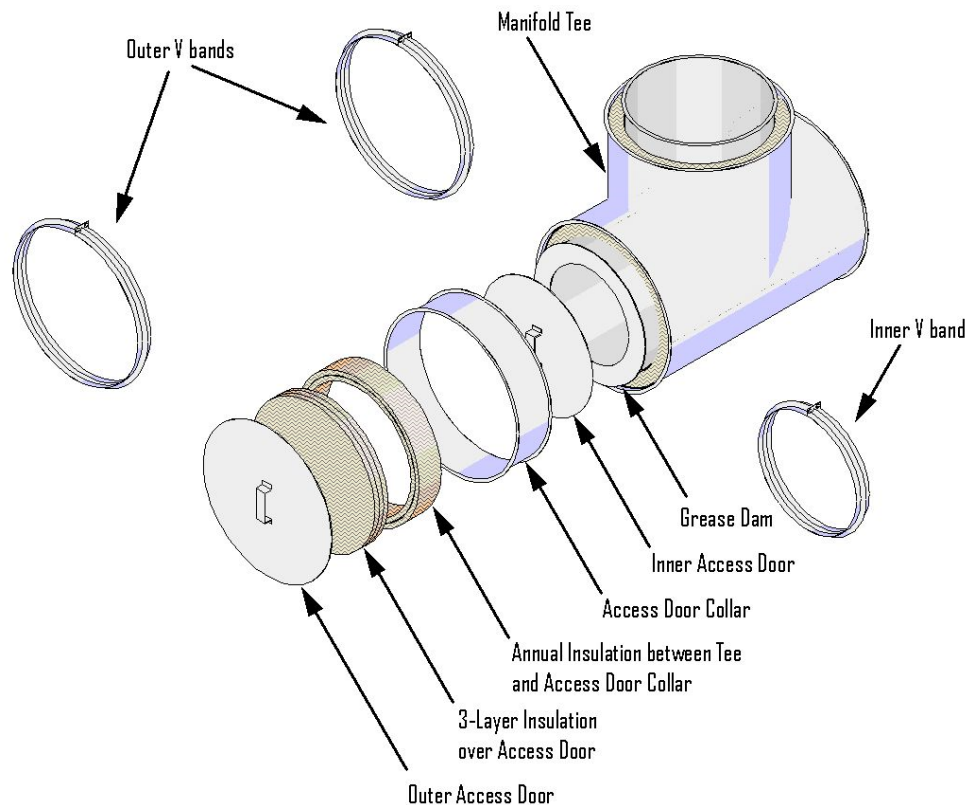

Figure 2. Access Door Assembly
B. ACCESS DOOR – When required, use the duct manufacturer's manifold tee and access door (tee cap) assembly (see Figure 2). Apply a 1/4 in. continuous bead of sealant (Item 2A) to the inner flange of the tee on the side where access door is to be located. Center the supplied grease dam over the opening of the tee. Verify that the grease dam is sealed to the tee flange by applying pressure. Remove excess sealant (Item 2A). When the sealant (Item 2A) is dry attach the supplied inner access door using a V band (Item 2B). Tighten 1/4-20 hardware to 40-60 in.lbs. Install access door collar to manifold tee with V band (Item 2B) and tighten the 1/4-20 hardware to 40-60 in.lbs. Install joint insulation (Item 2C) in the annular space created between inner duct and the access door collar, using the same insulation type and number of layers as required for other joints detailed in Item 2. Over the access door, install three layers of the supplied, circular, pre-cut, nominal 1 in. thick insulation of the same type and density as used in the pre-fabricated grease duct (Item 1). Secure outer access door to outer access door collar using V band (Item 2B); tighten the 1/4-20 hardware to 40-60 in.lbs.